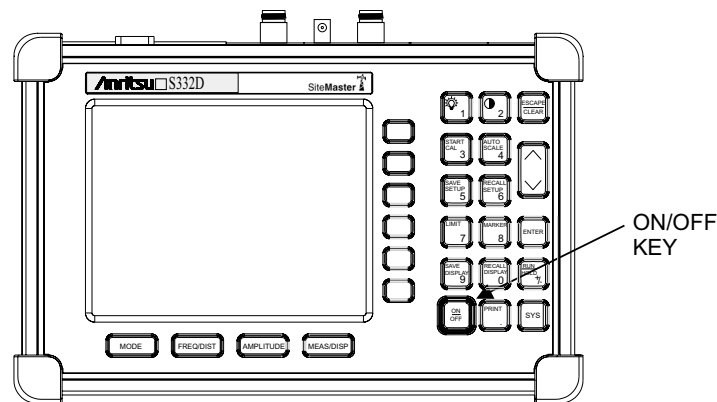

Figure 3-1. Site Master On/Off Key
- Step 1.** Press the **ON/OFF** front panel key (Figure 3-1).